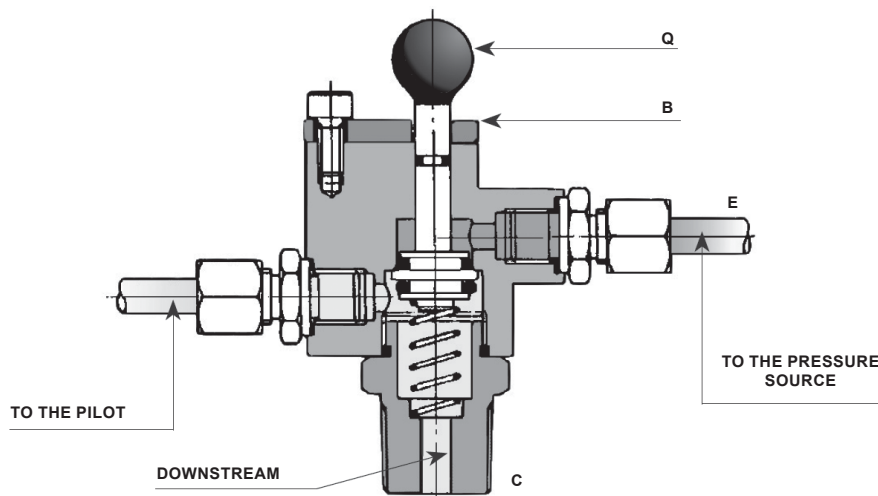

Figure 8. IT/3V Three-way Valve Installation
When the plate (B) is pivoted, pressure on the knob (Q) makes it possible to put the sensitive member into communication with a pressure source, thus making it possible to perform operation and setting tests. See Figure 8.